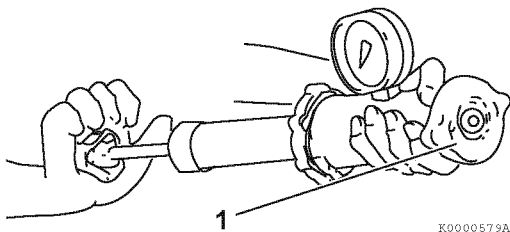

Figure 8-8
1. Check for proper operation of the radiator cap. Install the radiator cap (**Figure 8-8, (1)**) on a cooling system tester.